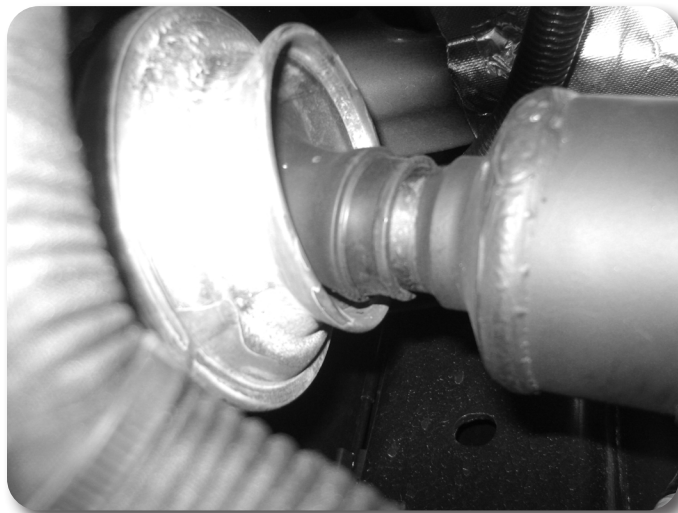

Figure 17
42. Reattach the front driveshaft to the front differential with factory hardware. Tighten to 55 ft-lbs. Remove the factory CV joint clamp at the front transfer case output. Slide the end of the boot up approximately 1/4" and reclamp with new CV joint boot clamp. **Figure 17**